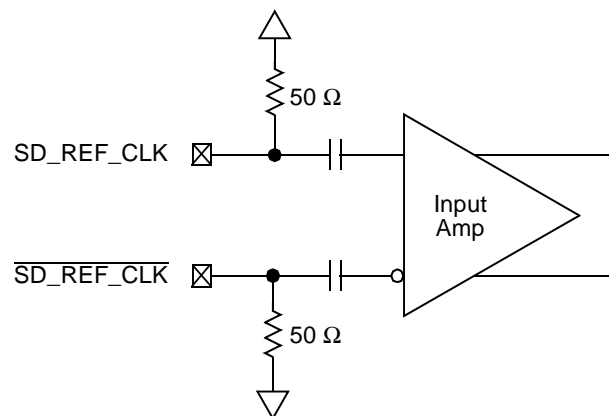

Figure 39. Receiver of SerDes Reference Clocks
Figure 39 shows a receiver reference diagram of the SerDes reference clocks.
- The SD\_REF\_CLK and  $\overline{\text{SD\_REF\_CLK}}$  are internally AC-coupled differential inputs as shown in Figure 39. Each differential clock input (SD\_REF\_CLK or  $\overline{\text{SD\_REF\_CLK}}$ ) has a 50- $\Omega$  termination to SGND\_SRDSn (xcorevss) followed by on-chip AC-coupling.